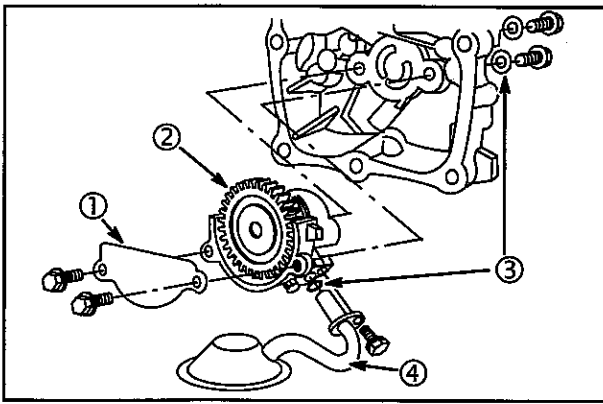
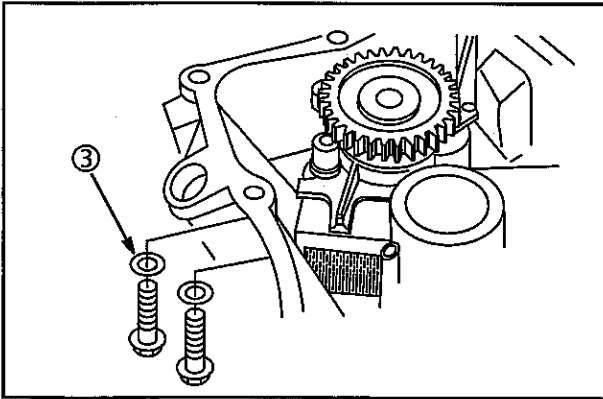

Fig. 24
Fig. 25
1. Remove gear baffle (1) and oil pump (2) with pickup (4) from crankcase cover (horizontal crankshaft engines), **Fig. 24**, or sump (vertical crankshaft engines), **Fig. 25**.